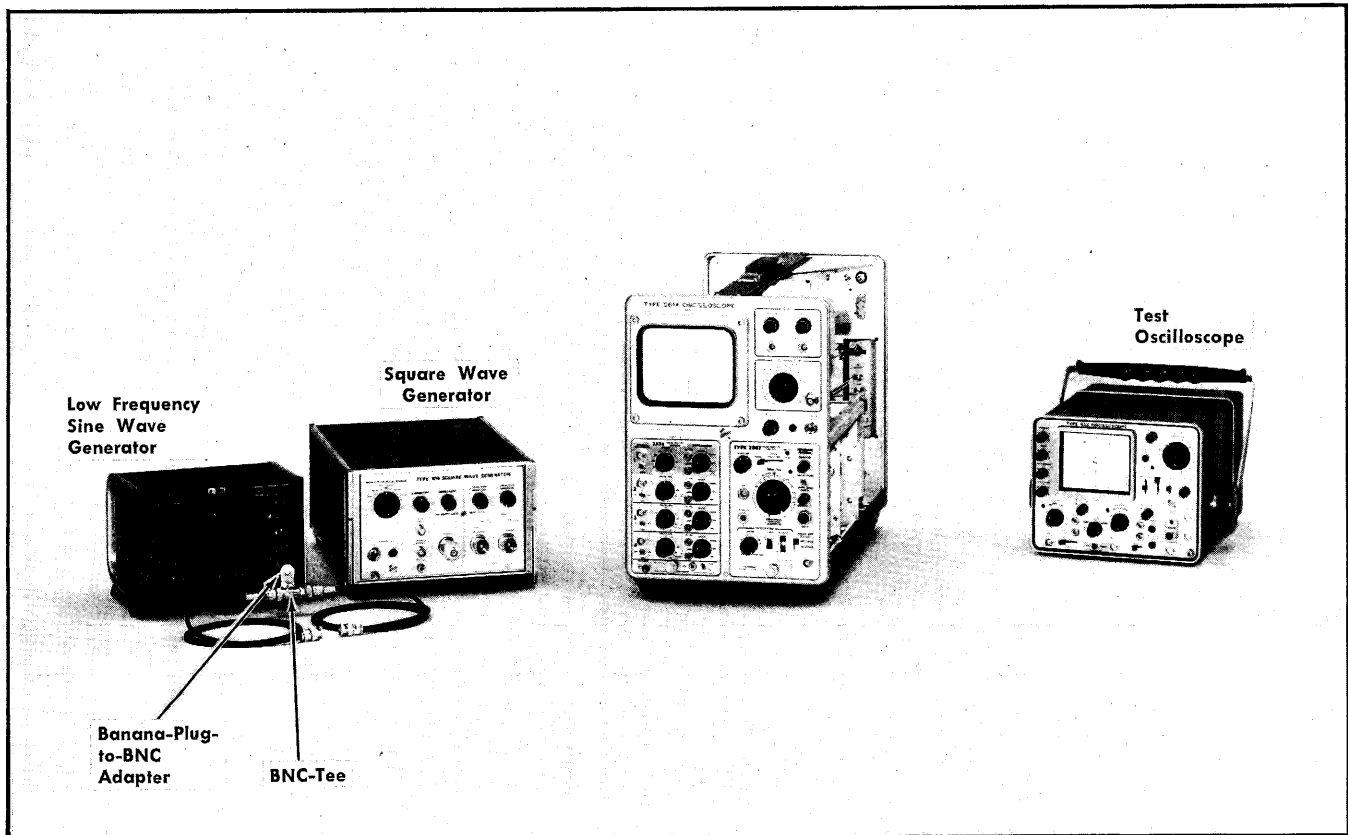

Fig. 5-21. Equipment arrangement for steps 1, 2 and 3.
- a. The equipment arrangement is shown in Fig. 5-21. The preliminary control setup applies.
- b. Connect the dual banana plug to BNC adapter (item 23) to the Low-Frequency Sine Wave Generator (item 9). Connect a BNC Tee (item 22) to the adapter.
- c. Connect a coaxial cable (item 16) from the BNC Tee to the 2B67 (TRIGGERING) EXT connector. Check that the 2B67 (TRIGGERING) SOURCE switch is at EXT.
- d. Connect a second coaxial cable to the third connection of the BNC Tee. Connect the other end of the cable to the Test Oscilloscope (item 5) vertical input connector.